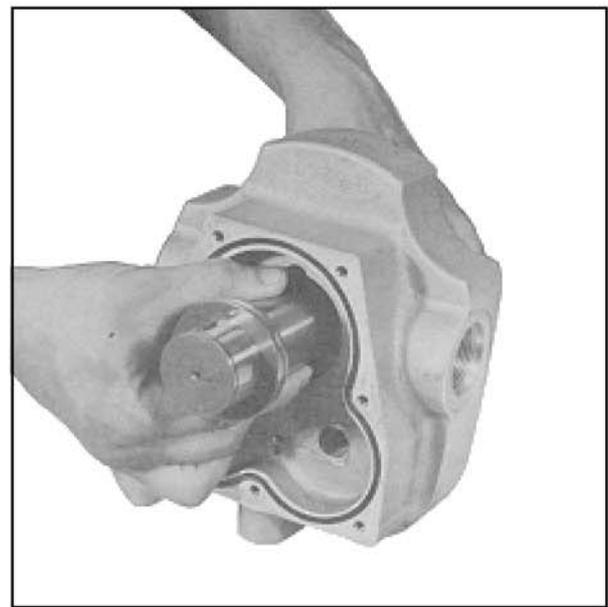

FIGURE 11
13.) Remove the shaft from the rear end cap. (Fig. 11)